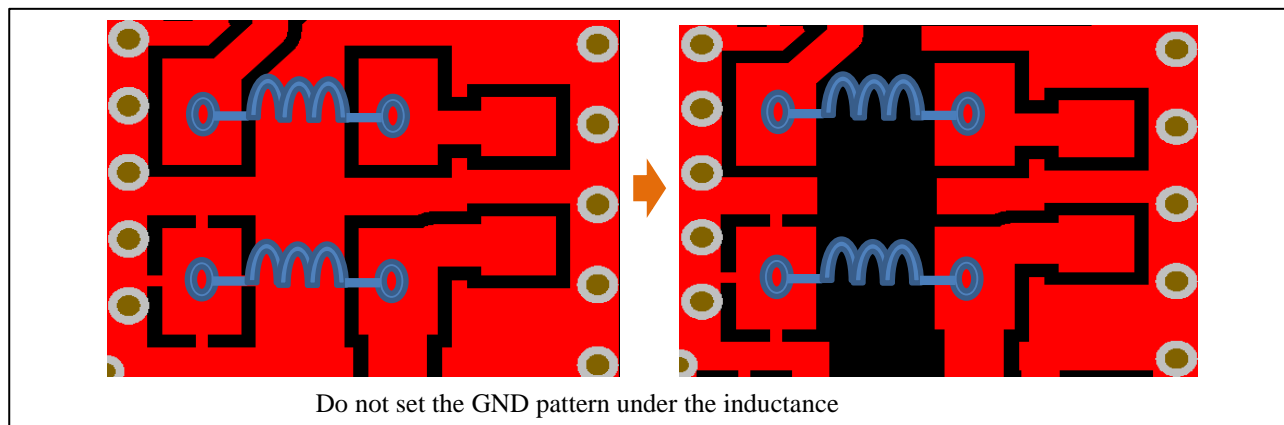

Figure 2-14 Cautions on GND patterns under the inductor
- Do not place a GND pattern under the inductance as shown in Figure 2-14 to avoid noise influences on the GND pattern. (e.g. the inductor to use for RX-BPF, a power supply circuit, and a filter for power supply line, etc.)